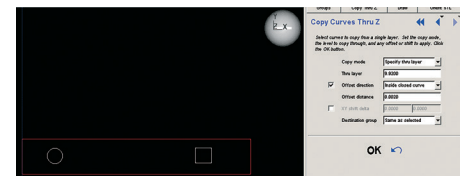

Figure 5: Extrude Alignment Features
STEP 8: Extrude Alignment Features Up (figure 5).